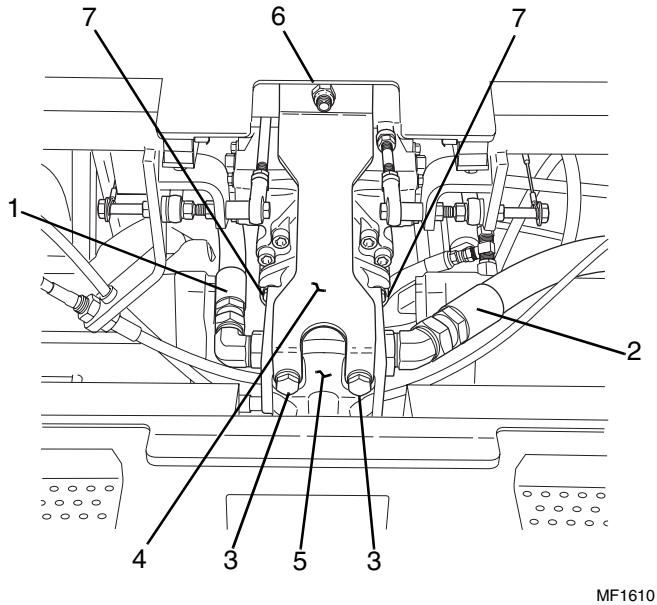

Figure 5-19 Implement Pump
8. Disconnect both hoses (Fig. 5-19, 1 & 2) from the implement pump and tag them with identification for proper re-installation. Cap or plug all hydraulic hoses and fittings.
9. Remove two bolts (Fig. 5-19, 3) attaching the front support bracket (4) to the implement pump (5). Remove one bolt (6) attaching the front support bracket (4) to the frame crossmember, and remove the support.
10. Remove the two bolts (Fig. 5-19, 7) attaching the implement pump (5) to the front travel control pump, and remove the implement pump.